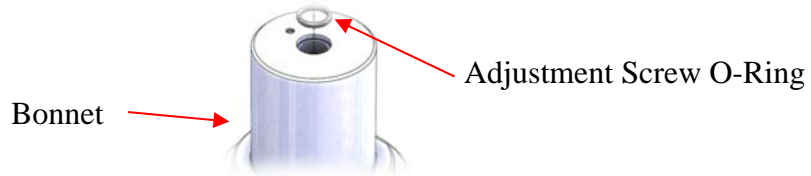

Figure 30: Top Entry Adjustment Screw O-Ring
13. Remove the adjustment screw o-ring and discard. See Figure 30.